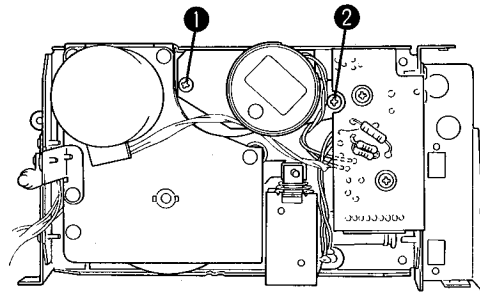
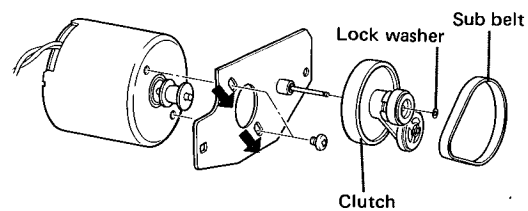

Fig. 14
Fig. 15
1. Remove the reel motor assembly from the mechanism by removing screws ① and ② in Fig. 14.
2. When installing the new motor, push it in the direction of the arrows in Fig. 15. (See Fig. 14 for wiring.)